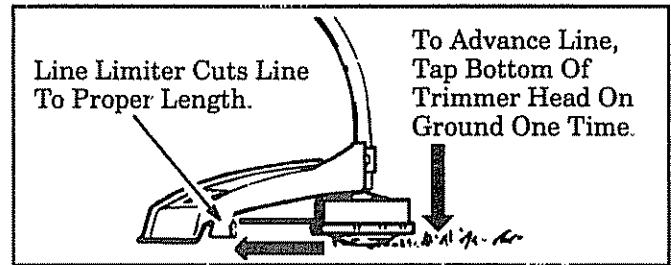

Figure 5
- Always keep the shield in place when the tool is being operated. Figure 5.
3. Tap bottom of trimmer head lightly on ground one time. See Figure 5. Approximately 2" (5 cm) of line will be advanced with each tap.